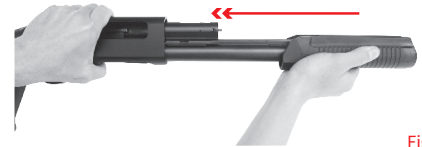

Fig.22
2. Move the forend reward slightly, so that the bolt is in the locked position (Fig. 22).